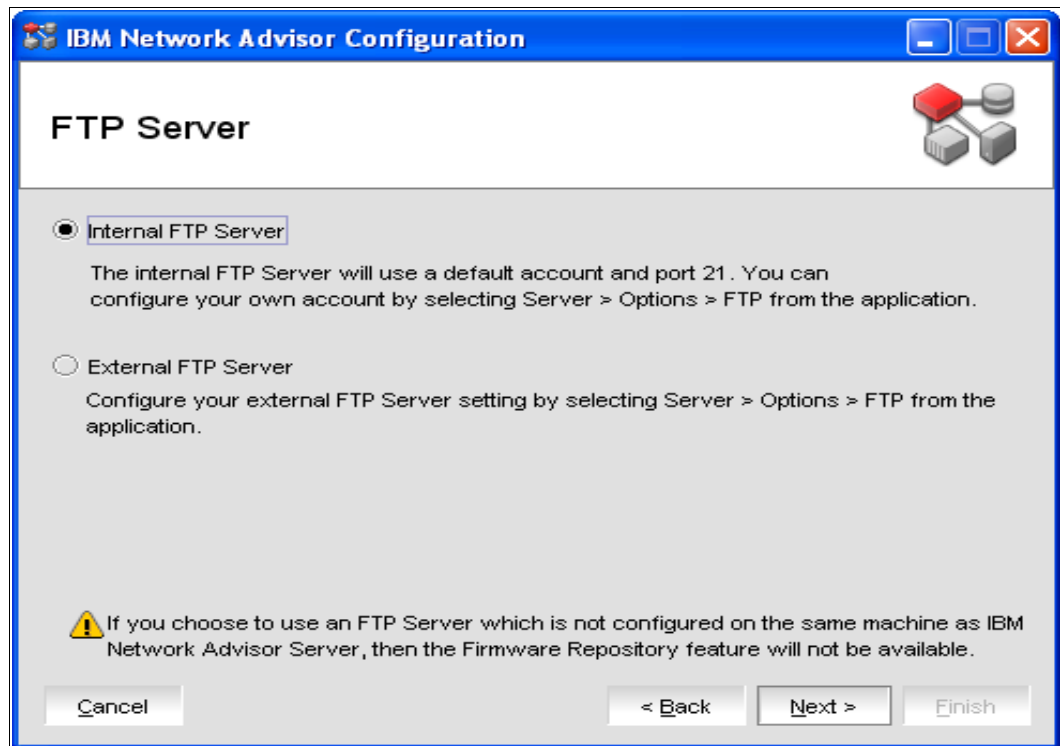

Figure 8-9 Select FTP Server
8. Select Internal FTP Server, as shown in Figure 8-9, and click **Next**.